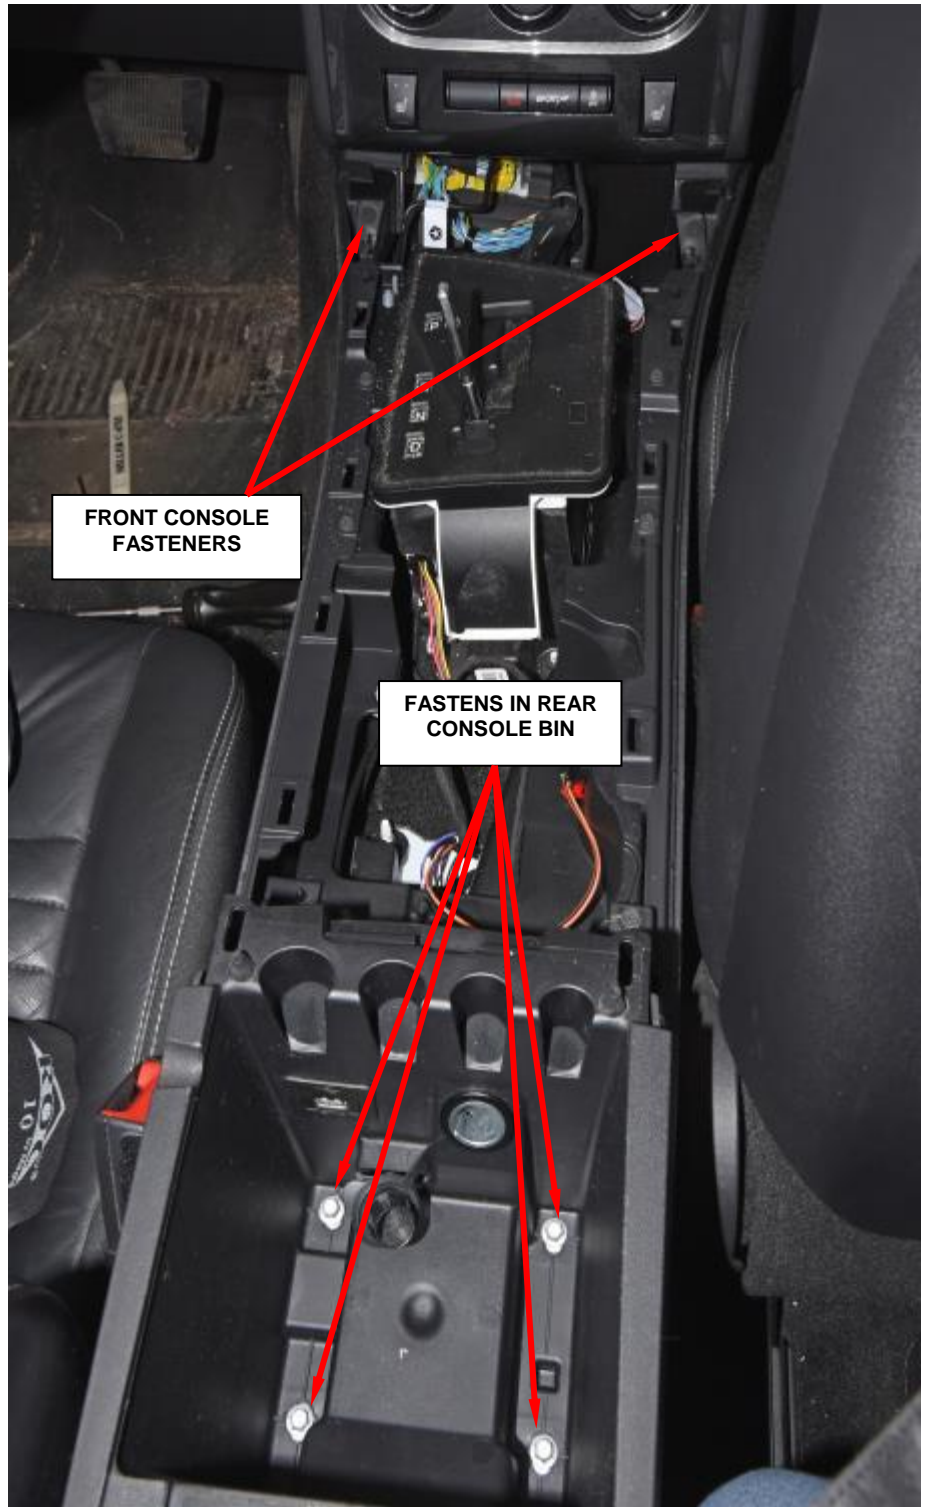

Figure 62 – Floor Console
13. Remove the four fasteners from the rear bin that secure the console to the floor panel transmission tunnel (Figure 62).
14. Remove the two fasteners that secure the front of the console to the instrument panel (Figure 62).